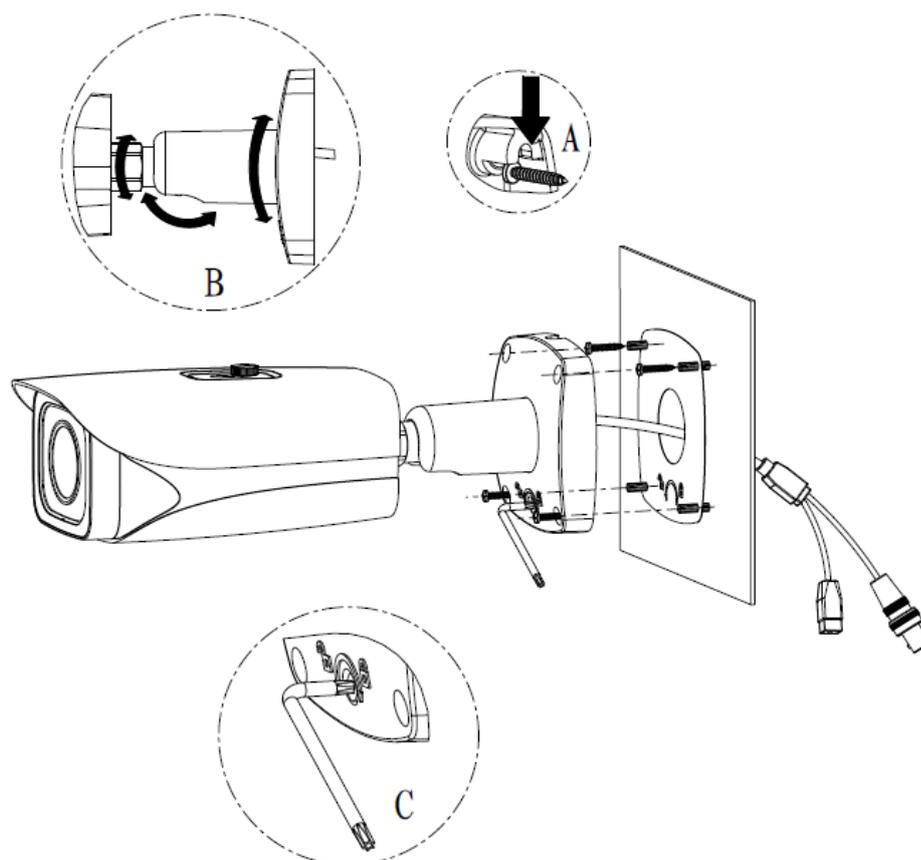

Figure 3-2
- Please install the expansion bolt if you want to install in the cement wall (Please make sure the installation holes of the expansion bolts are the same with the bracket.) Then you can install the bracket. See Figure 3-2.
Put the two self-tapping screws to the two expansion blots at the top left and the top right. Secure the bracket on the self-tapping screws. See (A) in Figure 3-2.
Refer to Figure 3-2 to fix other two self-tapping screws and the secure. Now the camera is fixed on the installation surface.
Use the L wrench (provided) to loosen the adjusting screw to make the camera can monitor the corresponding surveillance zone. Use the L wrench to adjust the adjusting screw to fix the camera firmly. Please refer to (B) and (C) in Figure 3-2.